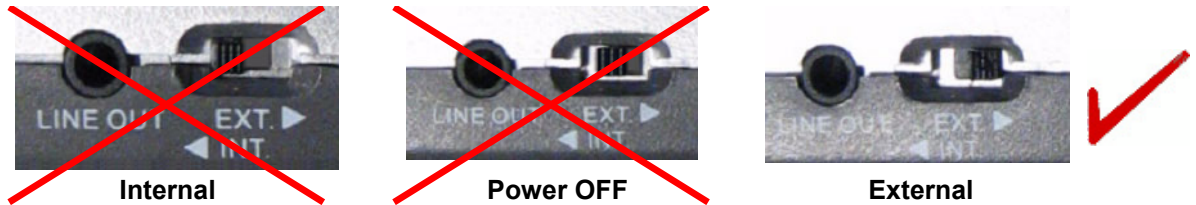

Figure 7-145 Power Switch in External Position
- 1.) Connect the DVD/CD-RW media drive to the USB port and make sure the DVD/CD-RW power switch on the rear of the drive is set in the **External** position, as shown in Figure 7-145, below.